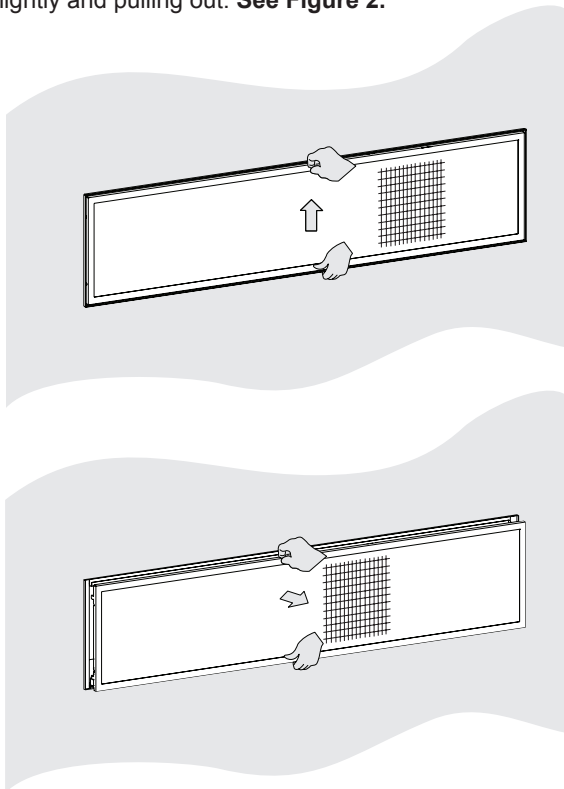

Figure 2
- Remove barrier screen assembly from fireplace by lifting up slightly and pulling out. **See Figure 2.**